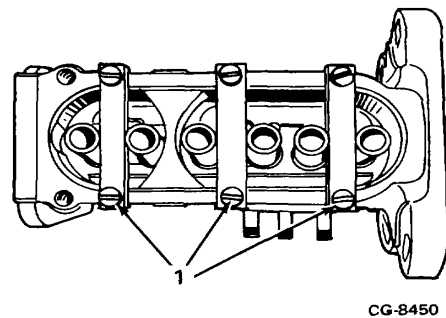

Figure 3. Install Plunger Retainers
7. Install plunger retainers KDEP1052 (Figure3).